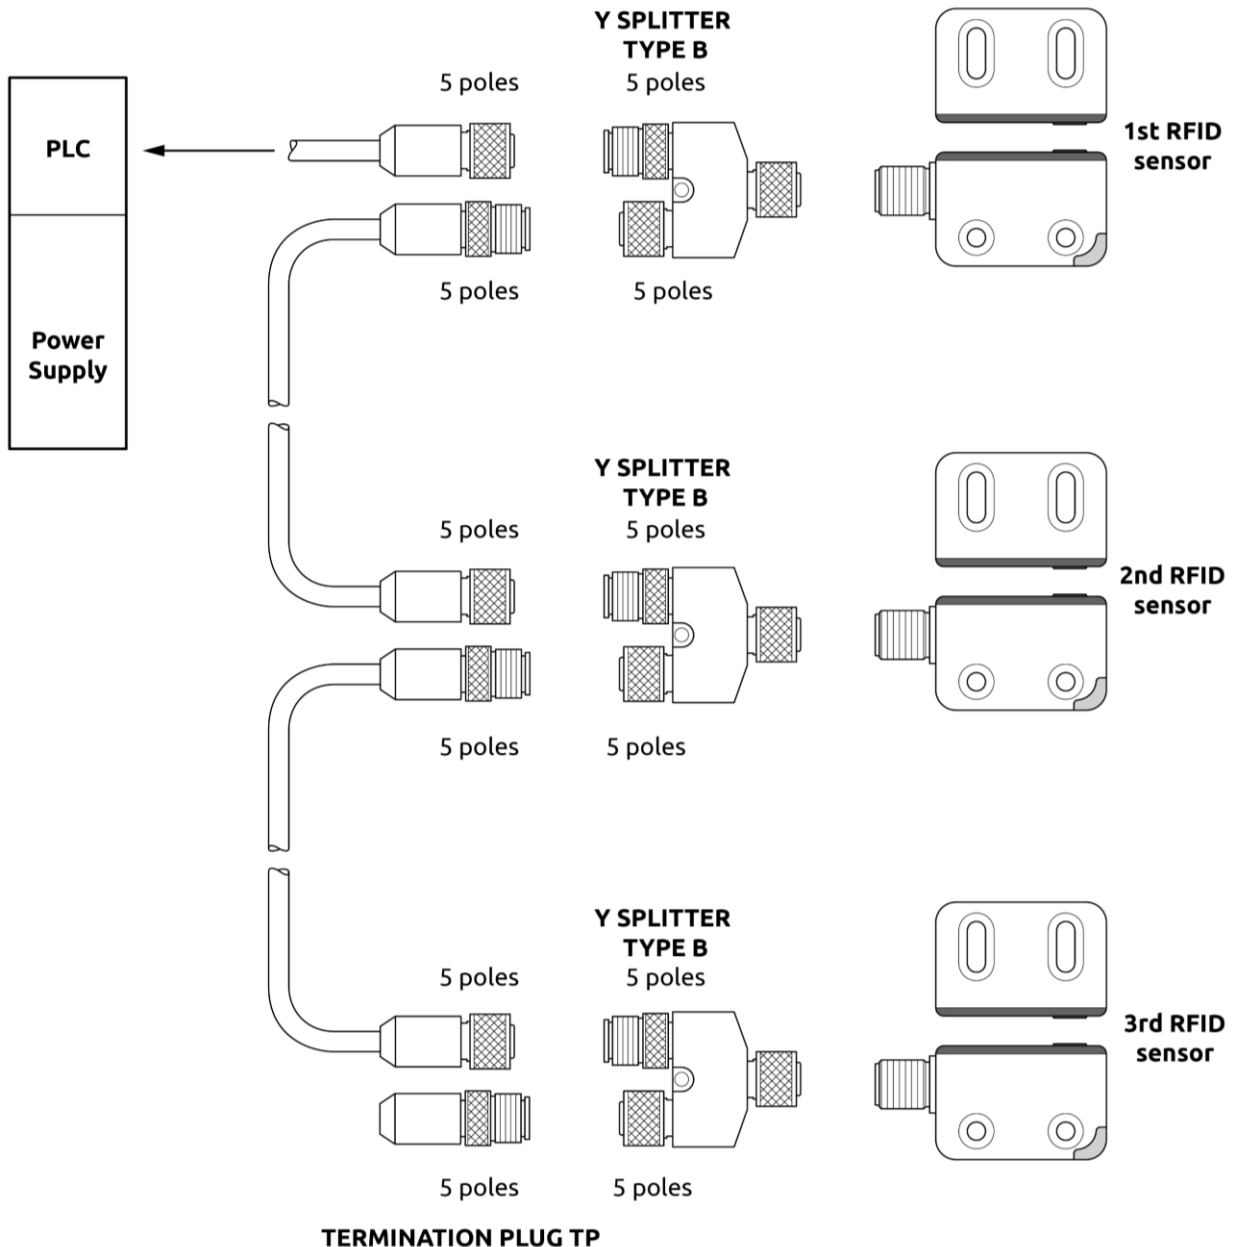
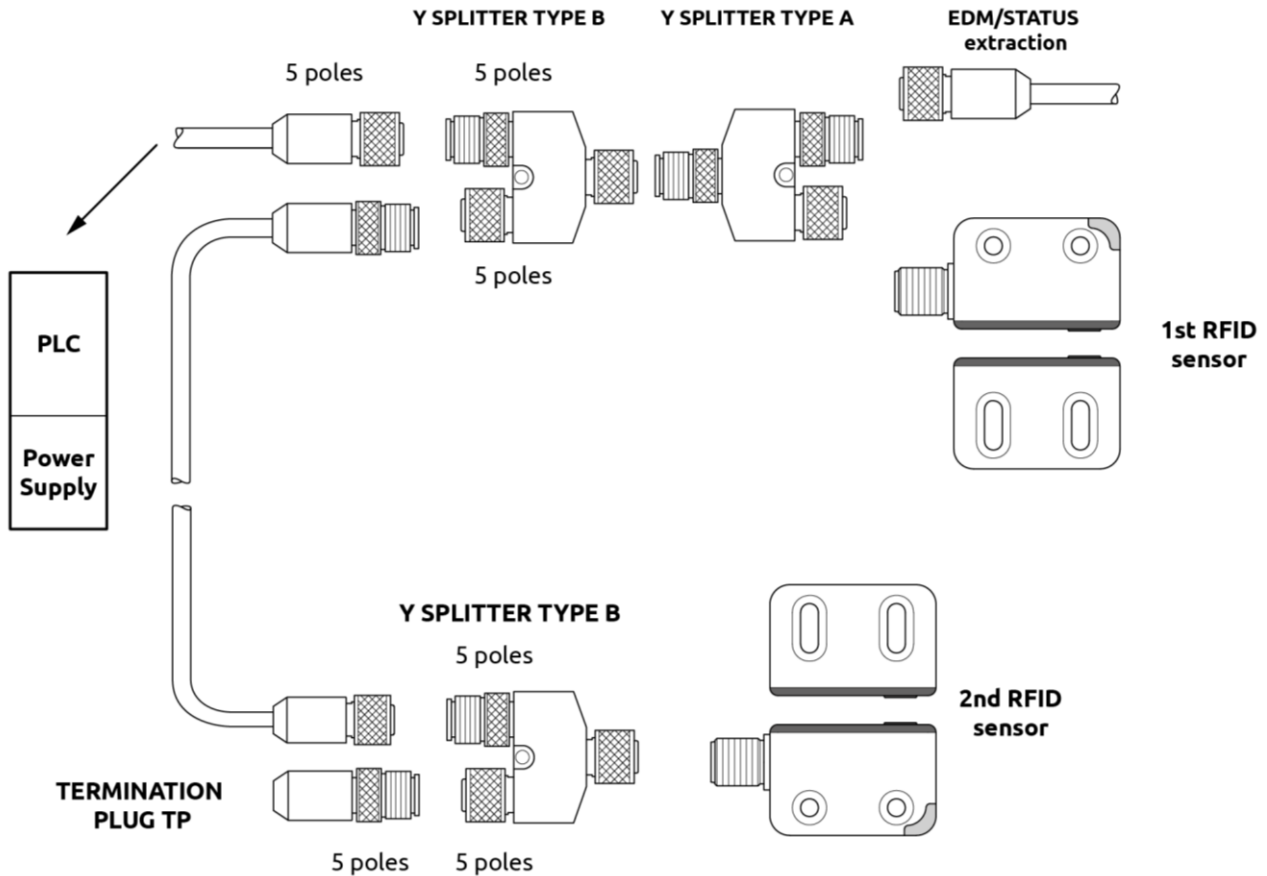
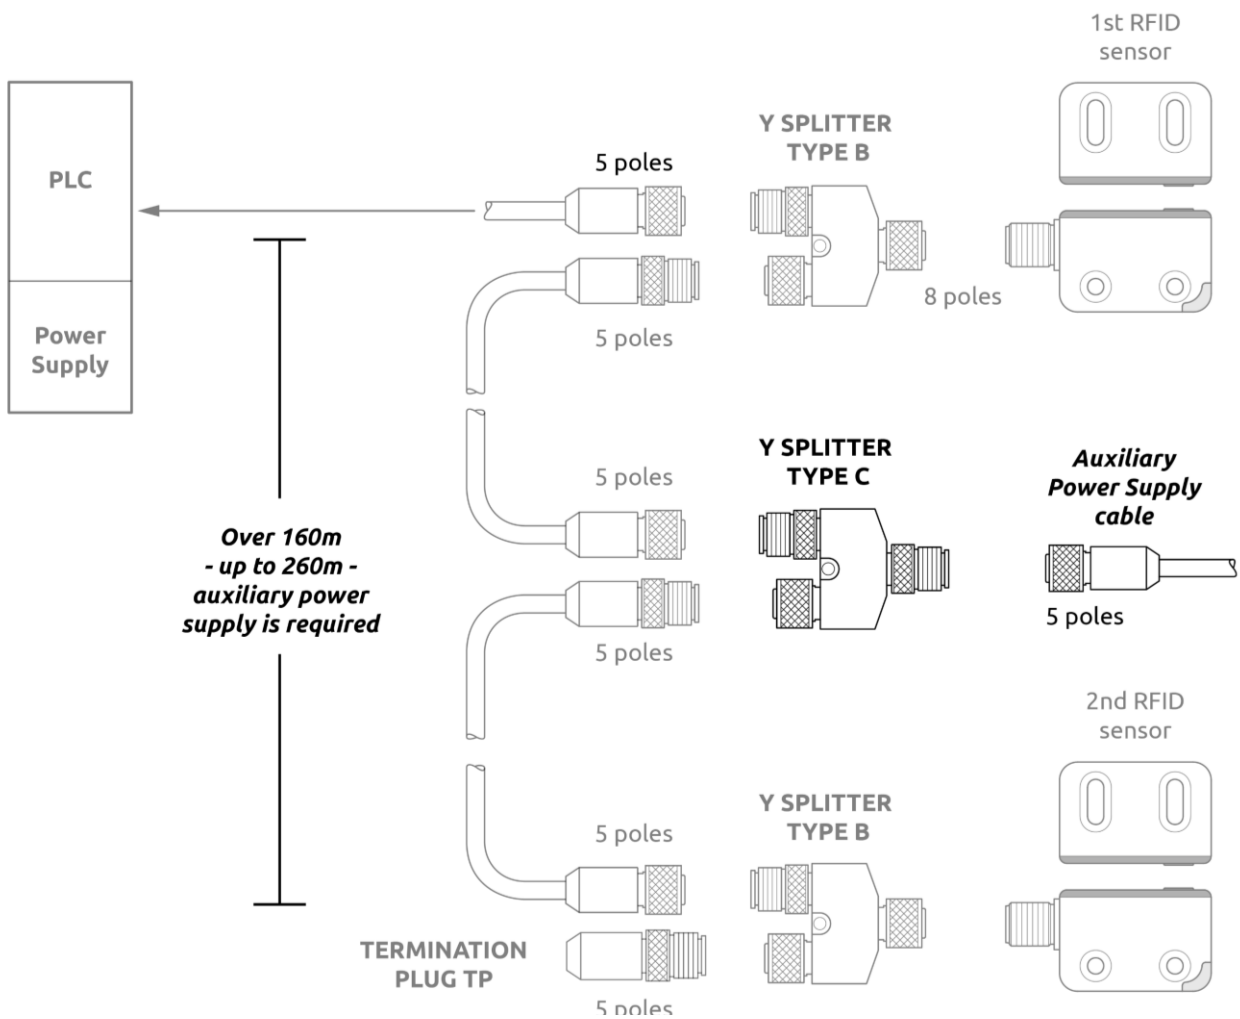

Figure 18 - Serial mode using "Splitter" connectors (R-Safe RFID Pro)
Figure 19 - Serial mode with STATUS / EDM (R-Safe RFID Pro)
Figure 21 - Auxiliary power supply (R-Safe RFID Pro)
- ➔ For a quicker and safe connection, Reer recommends using its splitter connectors as showed in Figure 18, Figure 19 and Figure 21.